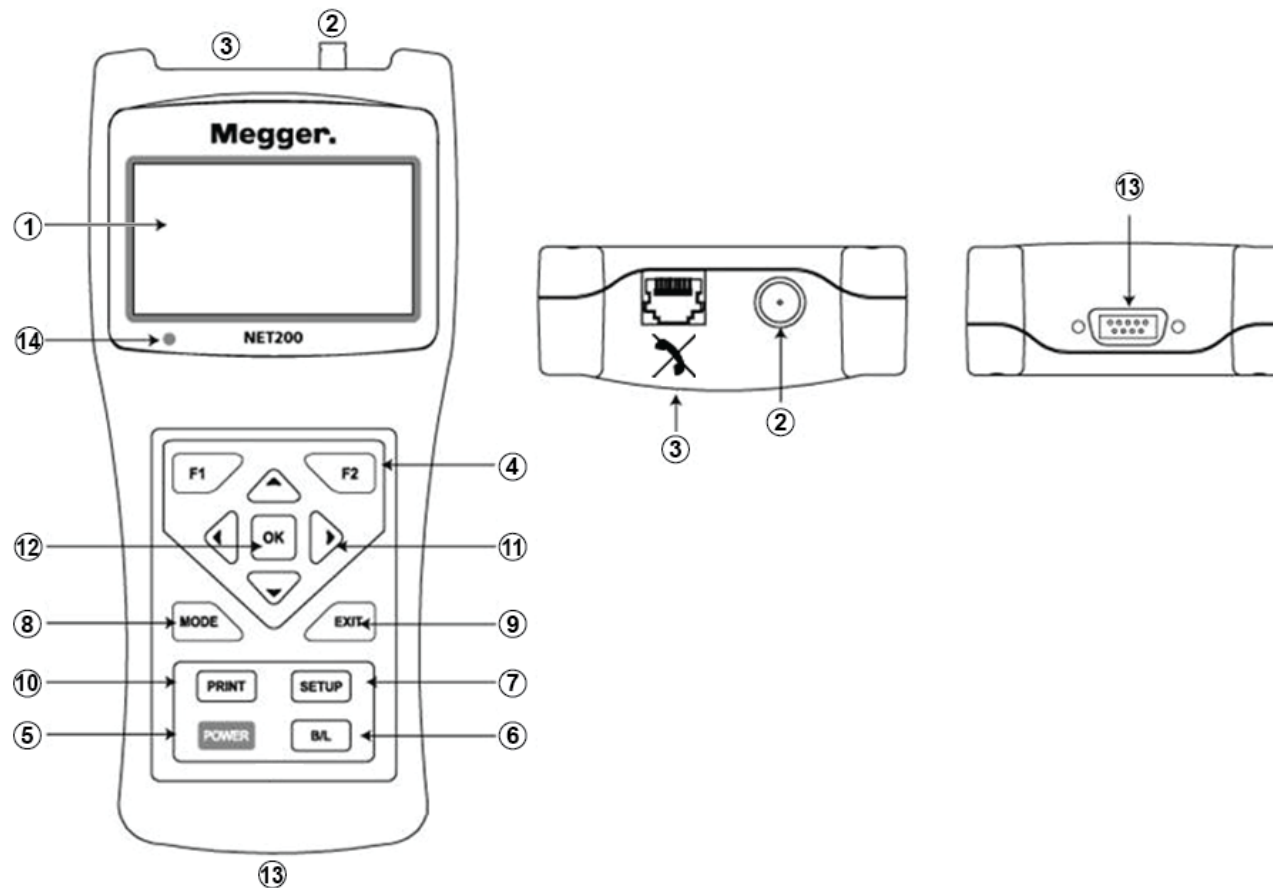

Figure 1. Exterior of NET200
2. Cable must be connected to only one of the two connectors: BNC connector (② in Figure 1) or RJ45 connector (③ in Figure 1).